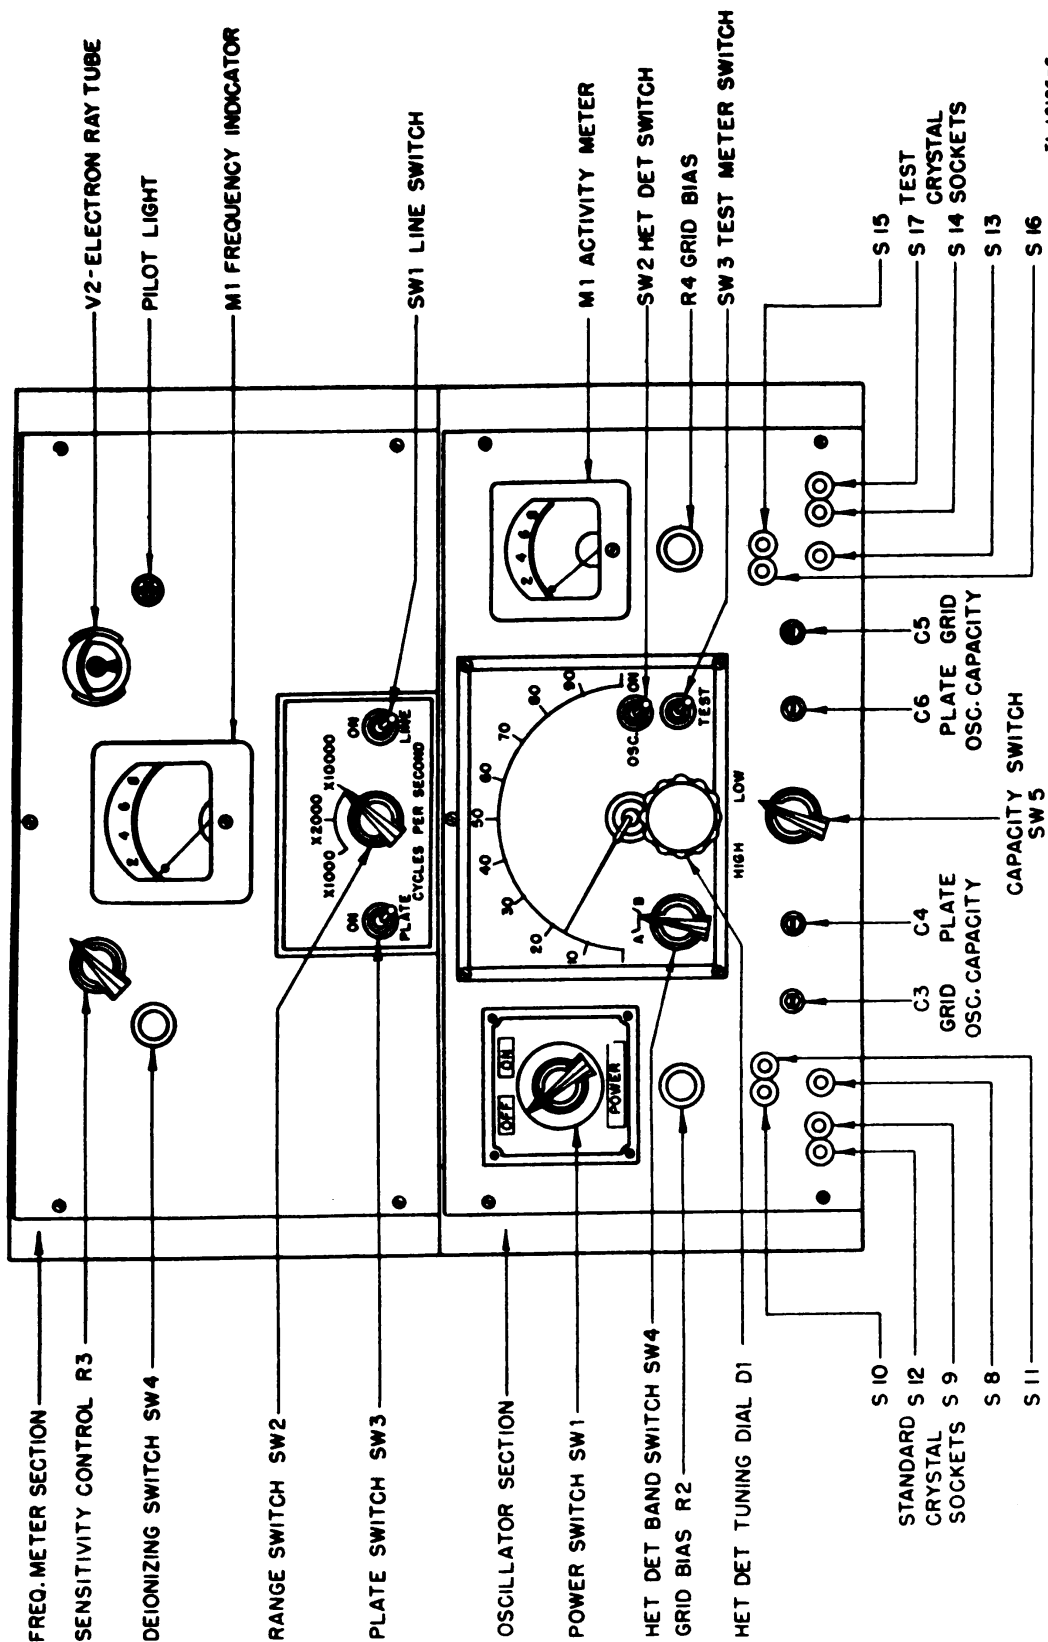

Figure 4. Crystal Test Set TS-314/F.S.M.-1, front view showing all controls.
14. PREPARATION FOR USE (fig. 4).
- d. Plug a crystal, whose known frequency is to be duplicated, into the crystal jacks on the bottom left-hand side of the oscillator panel (fig. 4).
- g. If crystal X1 is between 2,000 and 5,000 kc, turn BAND A B switch to A (fig. 4). If crystal X1 is between 5,000 and 10,000 kc, turn this switch to B.
h. Rotate the tuning knob on the oscillator section (fig. 4) until a beat note is heard, and then carefully adjust it so that zero beat is reached. Note the dial setting at this point.
a. Set the CYCLES PER SECOND switch (fig. 4) at X10000.